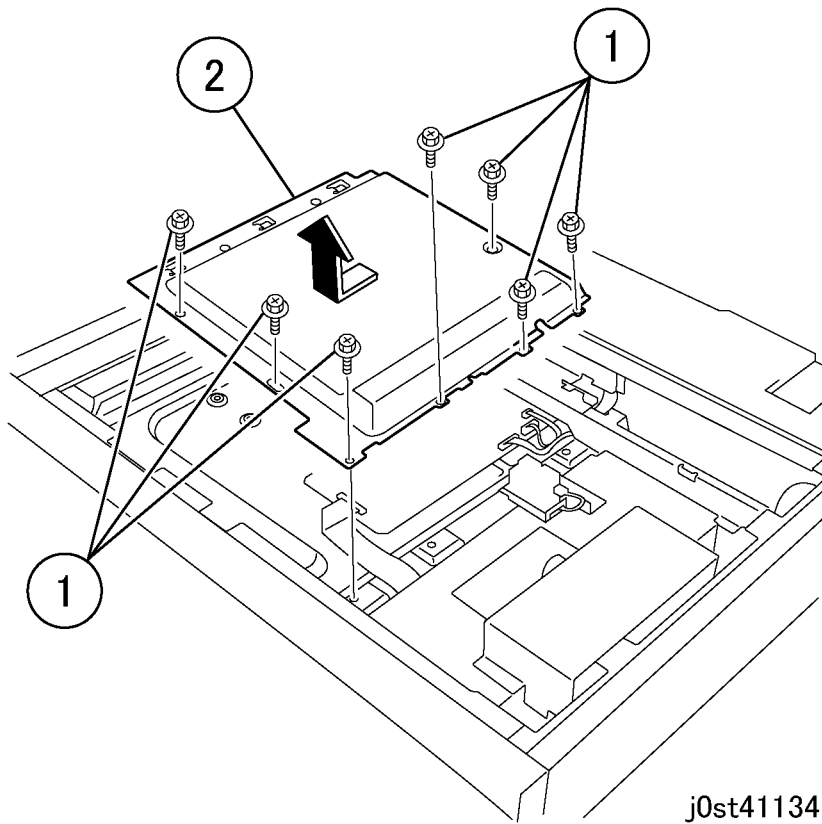

Figure 1 Removing the IPS Cover (j0st41134)
3. Remove the IPS Cover. (Figure 1)